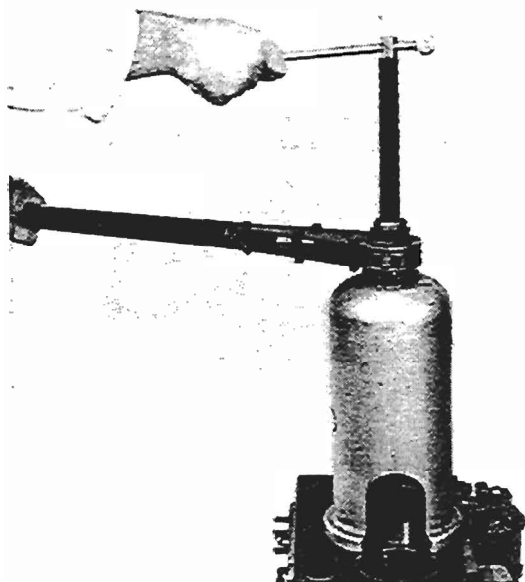

Fig. H1
4. Press out the liners through the top of the cylinder block (see fig. H1). Do not cause damage to the parent bores. Factory cast iron liners are an interference fit and must be removed with a heavy duty press.